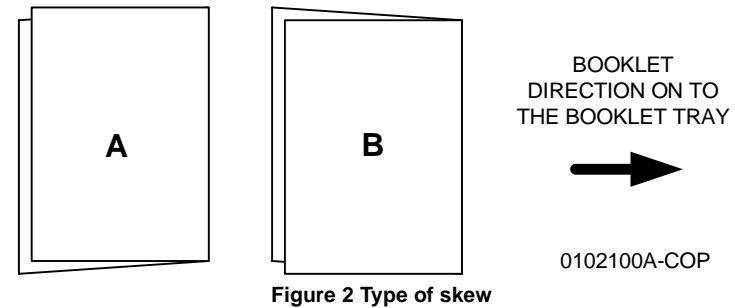

Figure 2 Type of skew
- Observe the booklet as it comes out on to the Booklet Tray (Figure 2) and determine the type of skew.